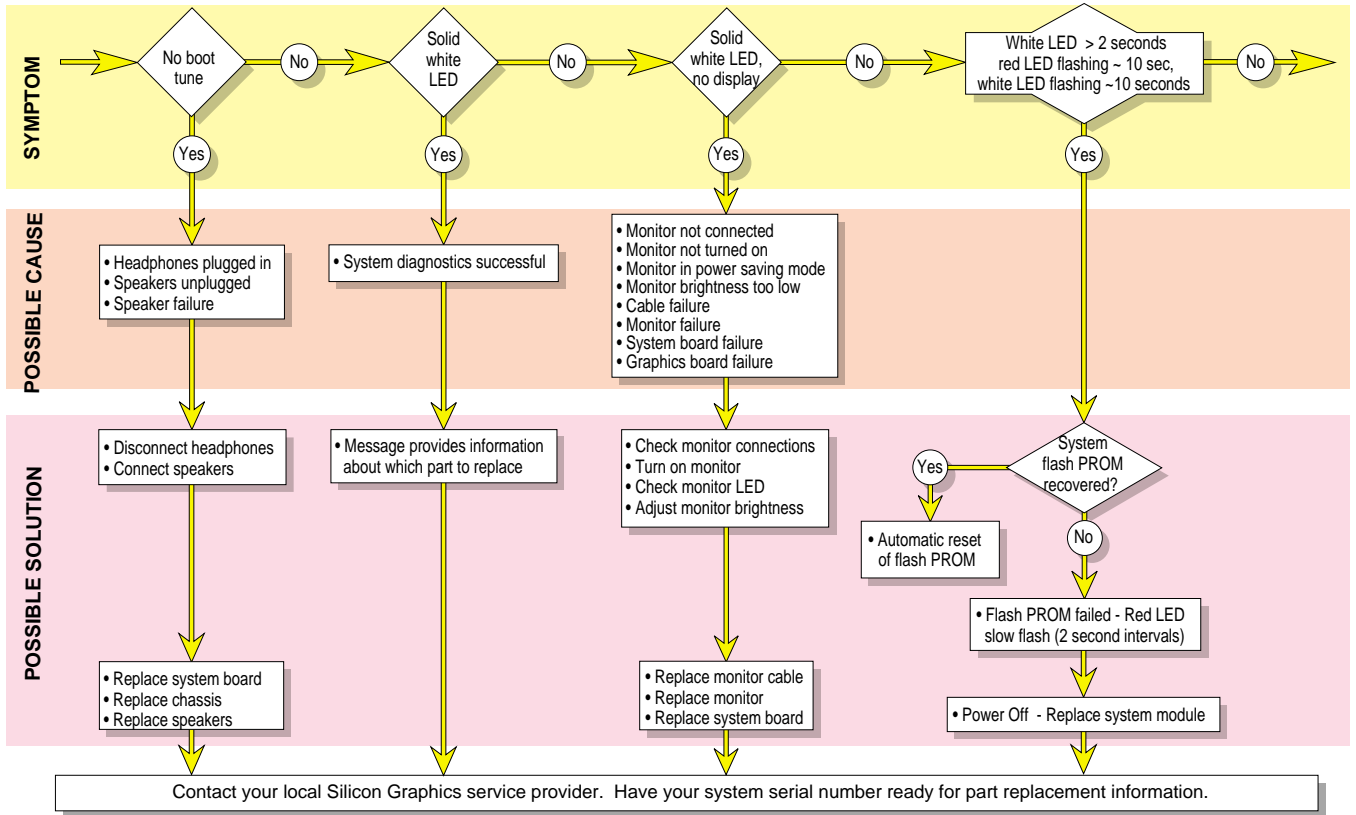

Figure 8-2 Lightbar LEDs - Front of OCTANE, Diagnostic Chart #2
- Lightbar LEDs - Front of OCTANE, Diagnostic Chart, Figure 8-2